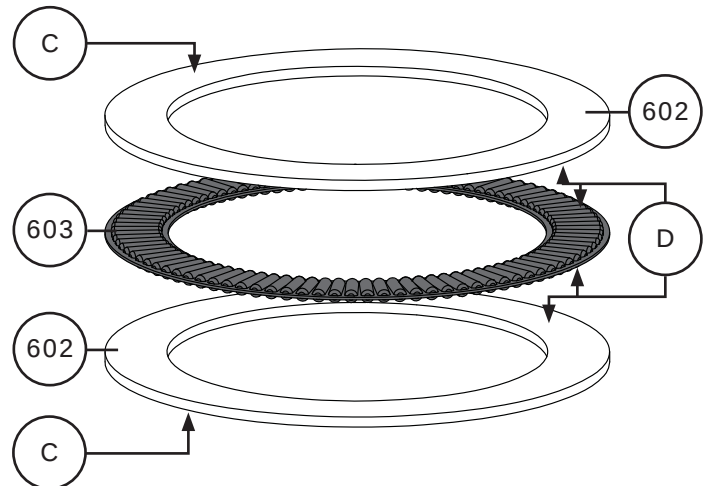
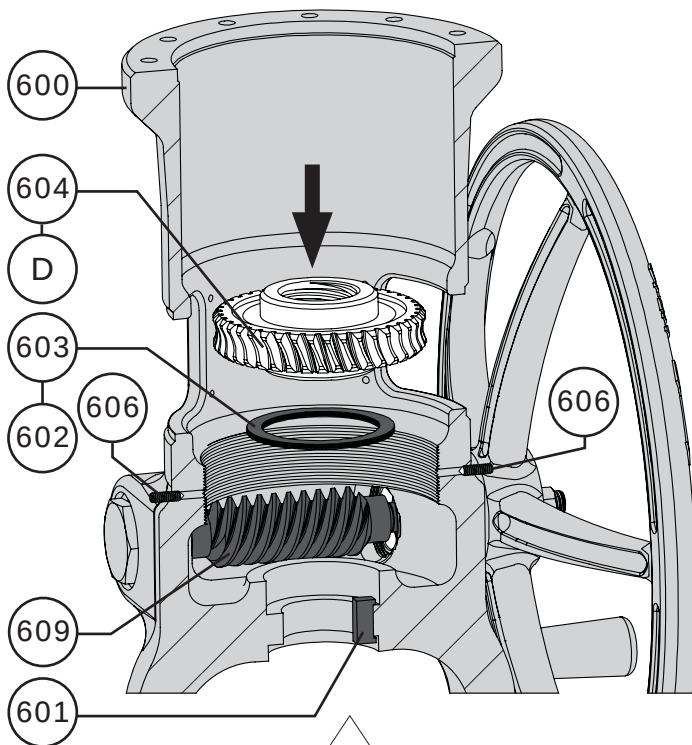

Figure 90 Thrust Bearing Preparation
Figure 91 Worm Gear Installation - Steps 7 & 8
- 6 If the key (Key 601) was removed, re-install it. Refer to Figure 91.
- 7 Pack the thrust bearing (Key 603) with grease (Key D) and apply grease (Key D) to one side of the bearing races (Key 602) and Lubriplate® No. 105 Grease (Key C) to the other as shown in Figure 90. Install the bearing assembly into the yoke (Key 600) as shown in Figure 91.
- 8 Apply Mobil Unirex™ Lotemp Grease (Key D) to threads of the worm gear (Key 604) and install the gear into the yoke (Key 600) so that the teeth of the gear mesh with those of the worm shaft (Key 609). Refer to Figure 91.